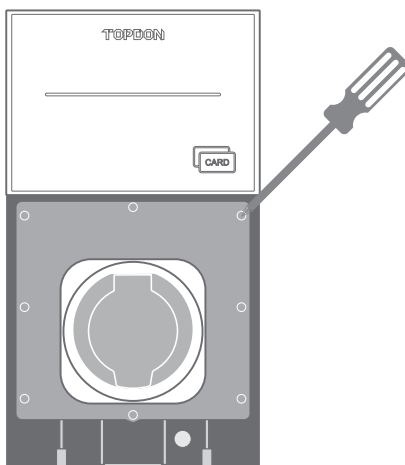

Fig. 5-12
3. Unscrew the eight screws to open the inner cover. (See Fig. 5-12)